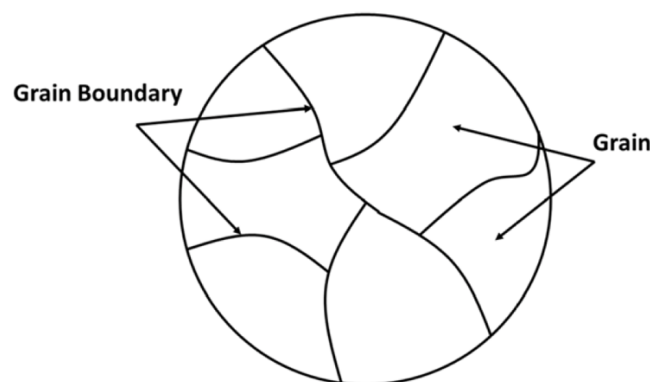

Fig 2.1: Schematic representation of a microstructure consisting of grains and grain boundaries.
- **DIAGRAM REFERENCE:** FIG. 2.1 - SCHEMATIC OF A MICROSTRUCTURE WITH GRAINS AND GRAIN BOUNDARIES.